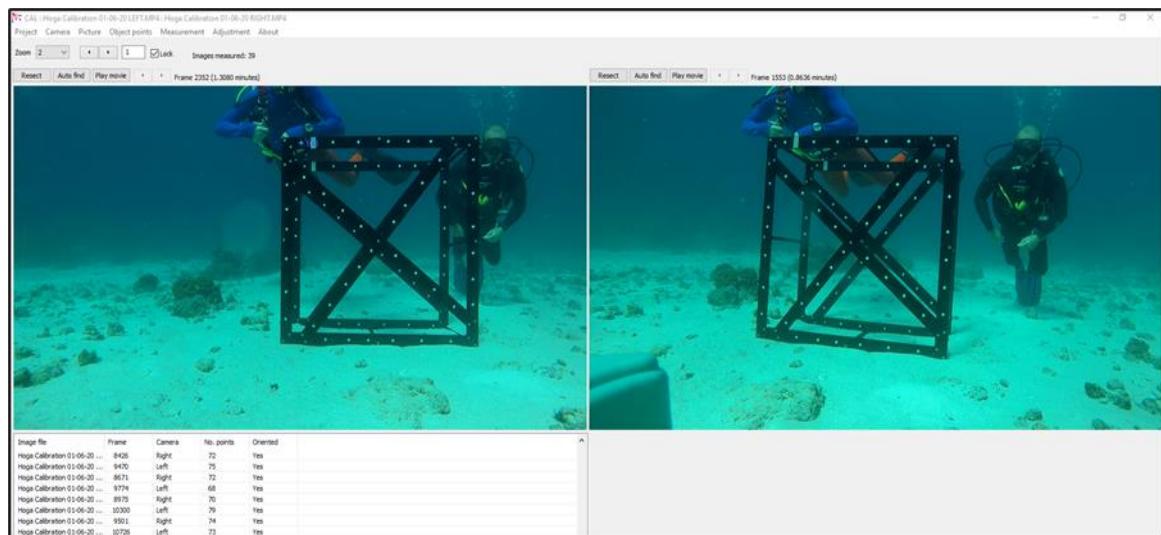

Figure 5. Screenshot from CAL. In the left image, point 100 has been measured using Shift + click (centroiding).
- A blue '100' should appear next to the point in the left image (**Figure 5**).